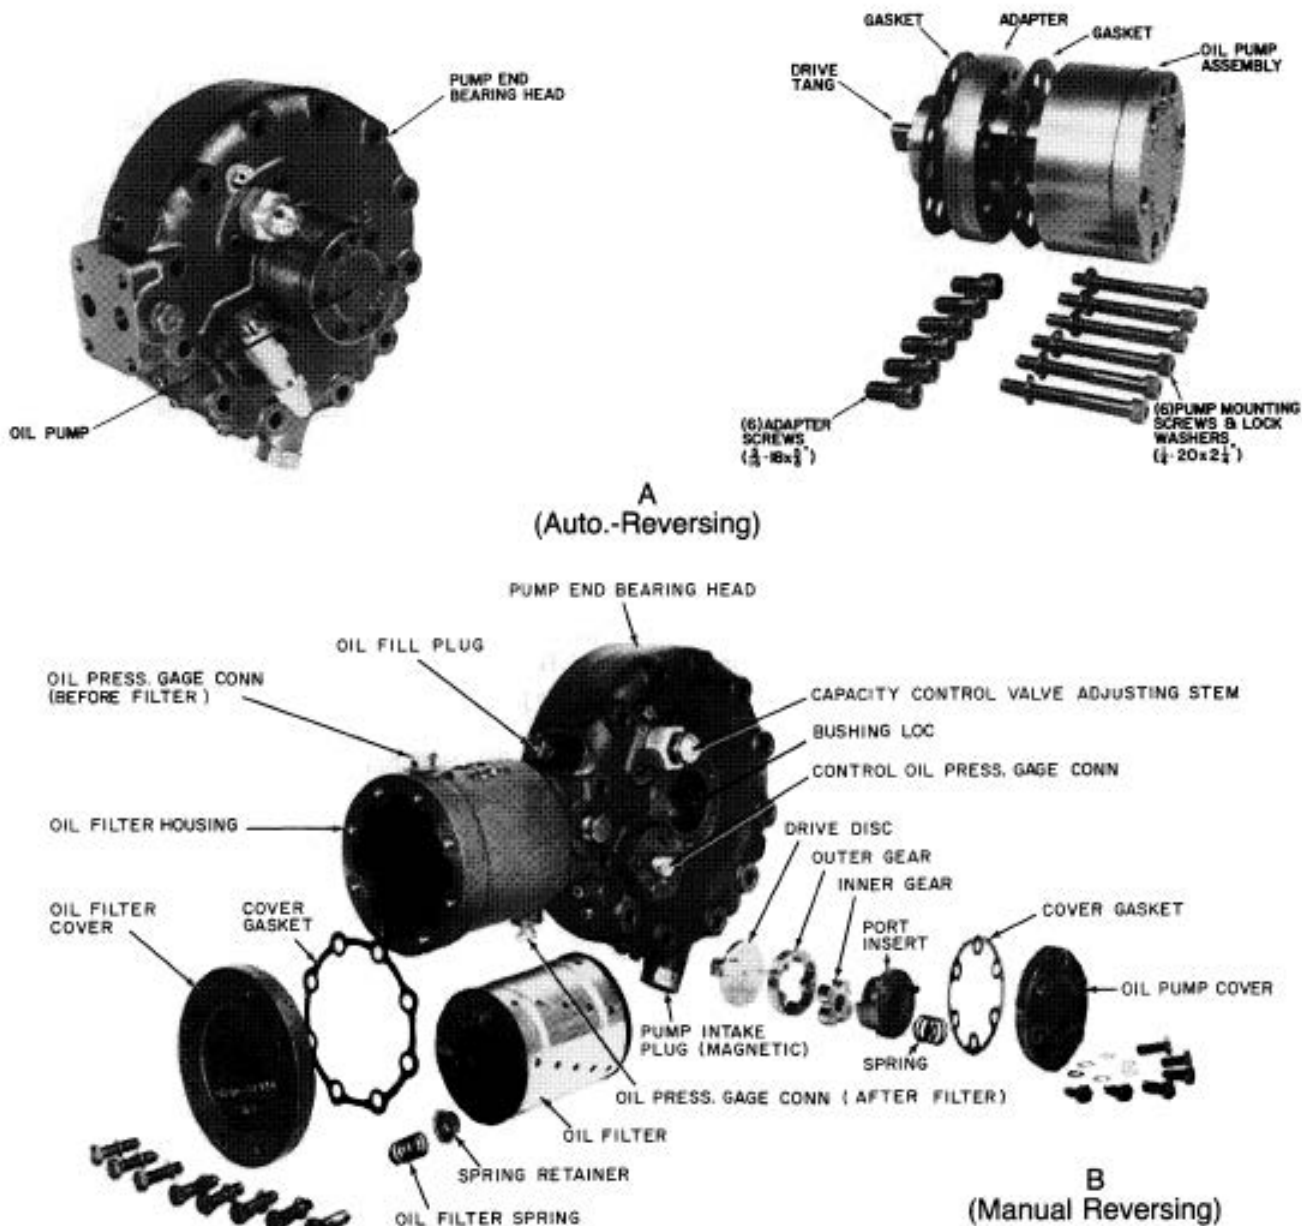

Fig. 26 — Oil Pump and Filter Assembly (5H120, 126)
The full-flow oil filter, on 5H120 and 5H126 compressors only, contains a replaceable cartridge. Replace the filter cartridge after the first 100 hours of compressor operation. After the initial filter change, check yearly for filter clogging. If the pressure difference across the filter exceeds 5 psig, pump down the compressor and then remove the cartridge. Figure 26 illustrates complete filter assembly (not shown in Fig. 26).
5H120,126 compressors, with automatically reversing oil pump. See Fig. 26(A).
5H120,126 compressors, with manually reversing oil pump. See Fig. 26(B) and 32.
See Fig. 26, 29 and 30 for 5F and 5H manually reversing oil pumps. Also refer to 5H120, 126 auto-reversing oil pump section.
See Fig. 26 for 5H120 and 126 for automatic reversing oil pumps.